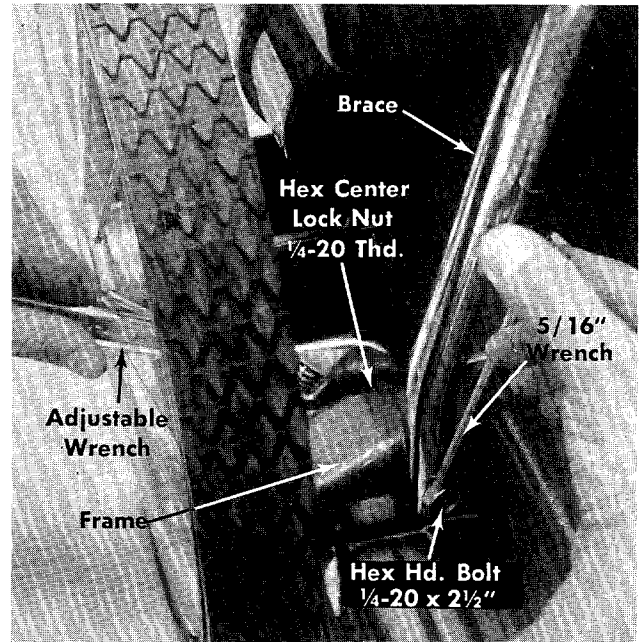

**FIGURE 6. RIGHT AND LEFT HAND BRACE**
- a. Place the right hand brace in position on frame and secure with one (1) Hex Hd. Bolt  $\frac{1}{4}$ -20 x  $2\frac{1}{2}$ ". Refer to figures 6 and 7.
- b. Place the left hand brace in position on frame and secure with one (1) Hex Hd. Bolt  $\frac{1}{4}$ -20 x  $2\frac{1}{2}$ ". Refer to figures 6 and 7.